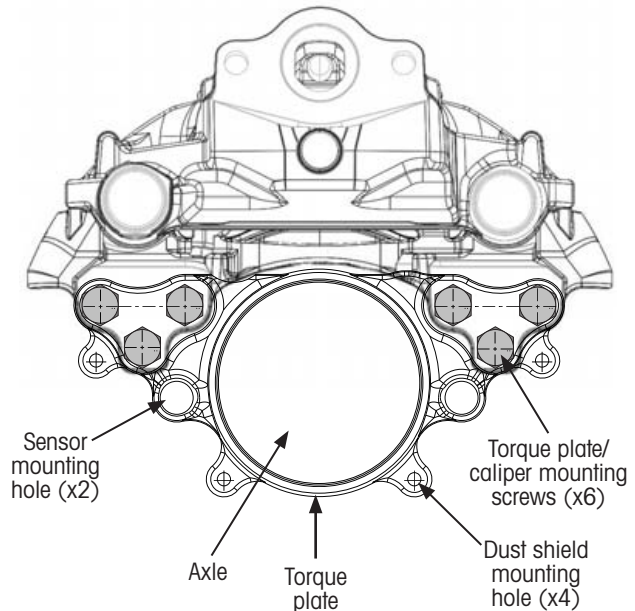

Figure 38: Disc Brake mounted to torque plate.
4. **Remove** torque plate mounting screws (Figure 38).
4. **Tighten** the screws (Figure 38) according to specifications in T71004 ADB Rotor (U-shape style) and Caliper Mounting or APPENDIX A: WRENCH SIZE AND TIGHTENING TORQUES on page 36, item III.